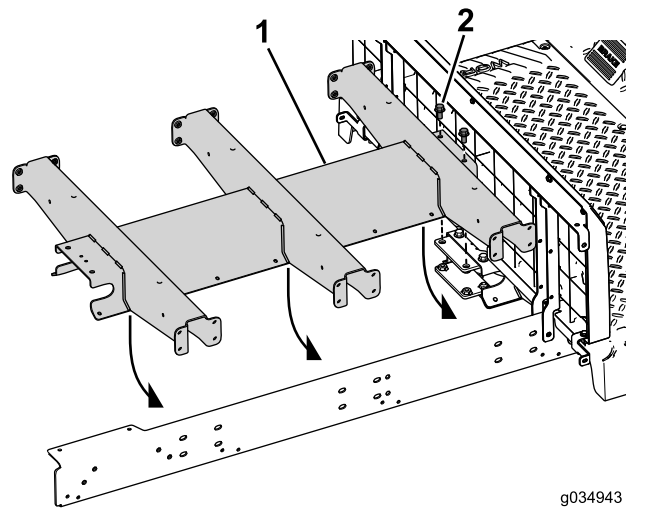

Figure 24
- Insert the 2 bolts (3/8 x 3/4 inches) through the center channel and rear mount (Figure 24).